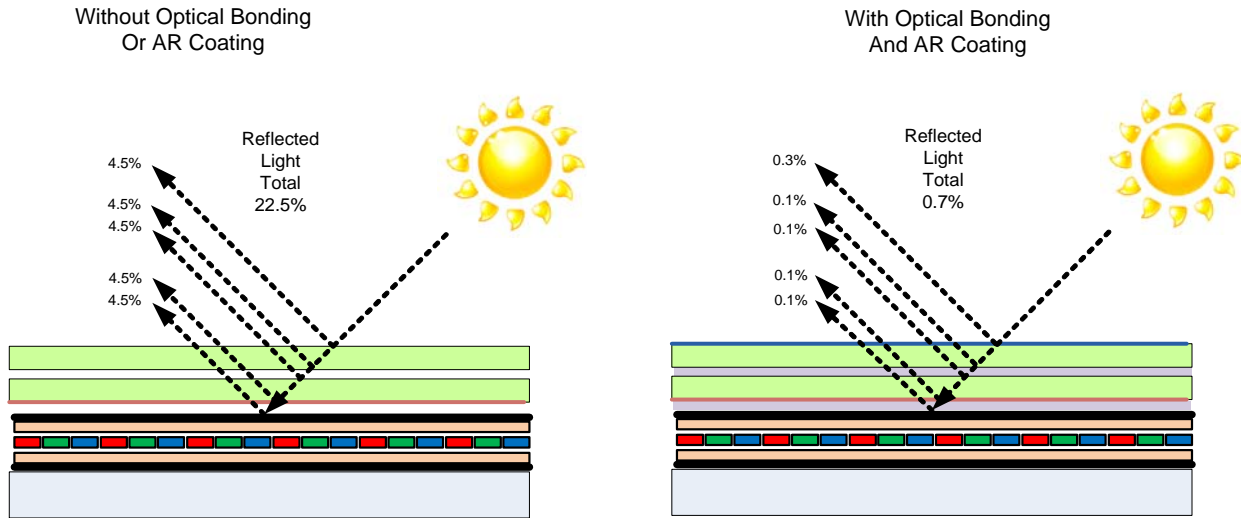

Figure 3 – Comparison of Reflections with and without Optical Bonding
The second layer of glass is coated with an Anti-Reflective (AR) coating which matches the index of refraction of air to eliminate surface reflections. These layers of coated glass are bonded together with an index matching optical adhesive to eliminate internal reflections caused by the index of refraction mismatch between the soda lime glass and air. This eliminates over 95% of unwanted glare from the screen. Please see Figure 3 below for more details.